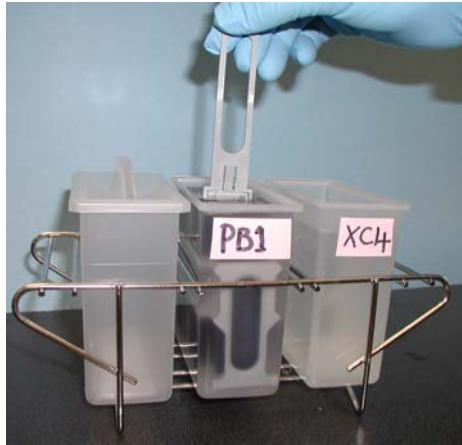

Figure 156 Washing BeadChips in PB1
11. Move the staining rack up and down 10 times, breaking the surface of the PB1 (Figure 156).